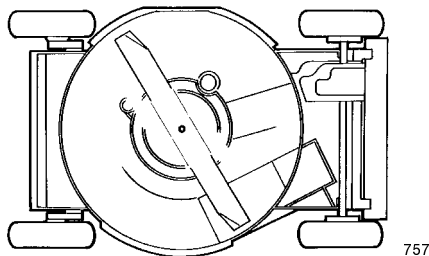

Figure 14
To ensure the best performance, keep the underside of the lawn mower housing clean (Fig. 14).
3. Tip the lawn mower onto its **right** side (air filter up) (Fig. 14).